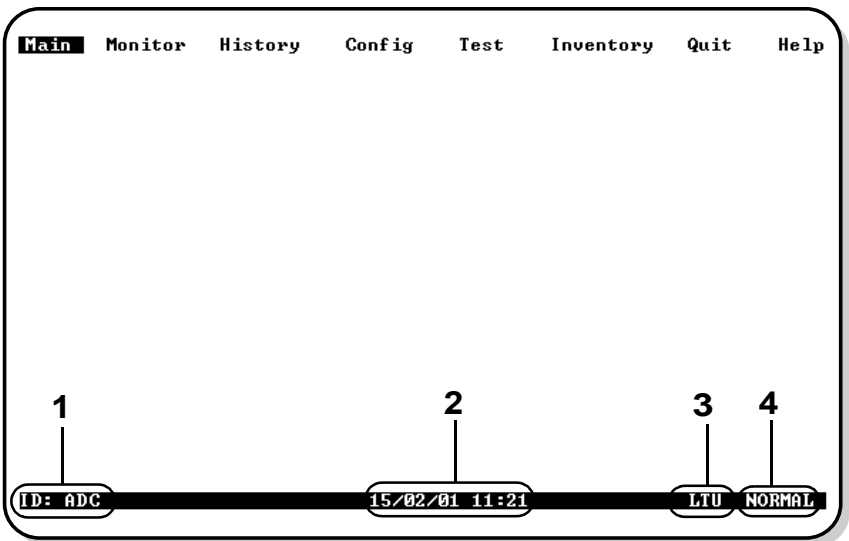

Figure 8. Console Screen Menu and Status Bars
- 2 Type the password at the prompt or press **ENTER**. The console screen menu bar displays (Figure 8 on page 19).
The status bar at the bottom of the screen displays the circuit ID, the current date and time, unit type, and current system information. Select Config from the console screen menu bar to enter or change the circuit ID and the current date and time. The numbered items in Figure 8 below correspond to the items described in Table 5 on page 20.